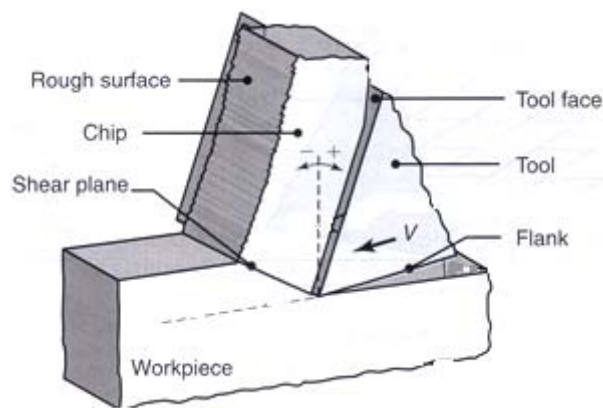

Figure Q5A: Merchant model of orthogonal cutting
B. In the turning cutting process (Figure Q5A), rake angle can be used to control the chip thickness. Discuss how controlling rake angle can play an important role on the cutting tool life.